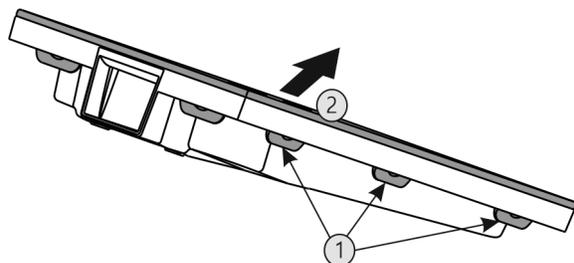

Fig. 48
- ▶ Press all lugs *Fig. 48 (1)* one after another and remove the cover *Fig. 48 (2)*.